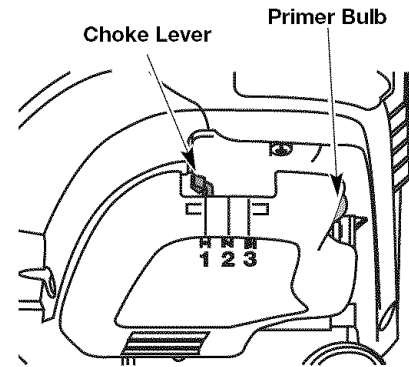

Fig. 8
**WARNING:** Avoid accidental starting. Make sure you are in the starting position when pulling the starter rope (Fig. 8). To avoid serious injury, the operator and unit must be in a stable position while starting.
3. Fully press and release the primer bulb 10 times, slowly. Some amount of fuel should be visible in the primer bulb and fuel lines (Fig. 8). If you can't see fuel in the bulb, press and release the bulb as many times as it takes before you can see fuel in it.
4. Place the choke lever in **Position 1** (Fig. 8).
6. Place the choke lever in **Position 2** (Fig. 8).
9. Place the choke lever in **Position 3** (Fig. 8). The unit is ready for use.